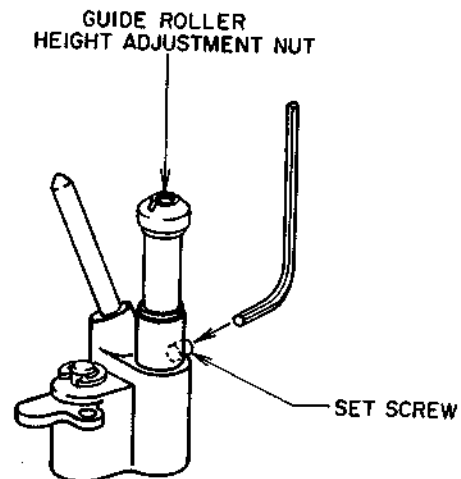

Fig. 118
- 1) Slightly loosen the set screw at the lower part of the guide roller so that the guide roller can be adjusted with reasonable tightness (See Fig. 118).